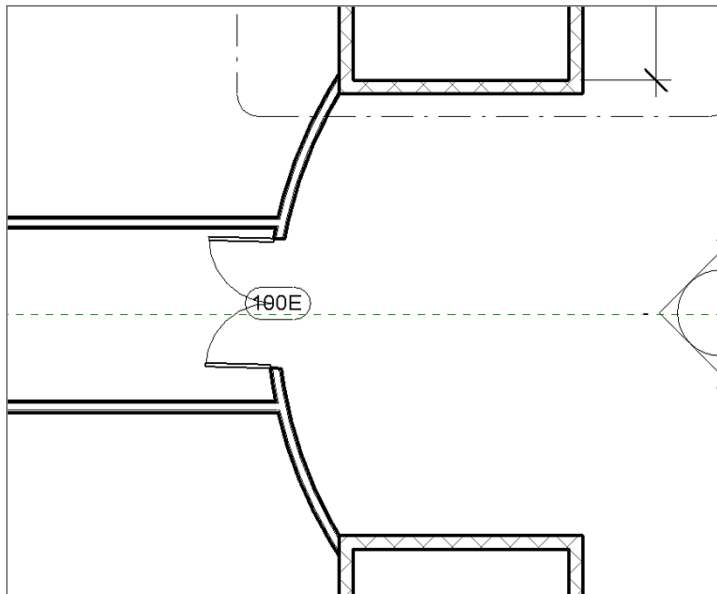

FIGURE 4.32: Adding a double door to the east wing corridor
1. Zoom in to the end of the corridor in the east wing of the building, as shown in Figure 4.32.
3. Place a Double Flush: 72" × 84" (1829mm × 2133mm) door in the radial corridor wall, as shown in Figure 4.32. As when you placed the window along the reference plane in the preceding procedure, don't try to eyeball the correct alignment; you want to misalign the door on purpose.